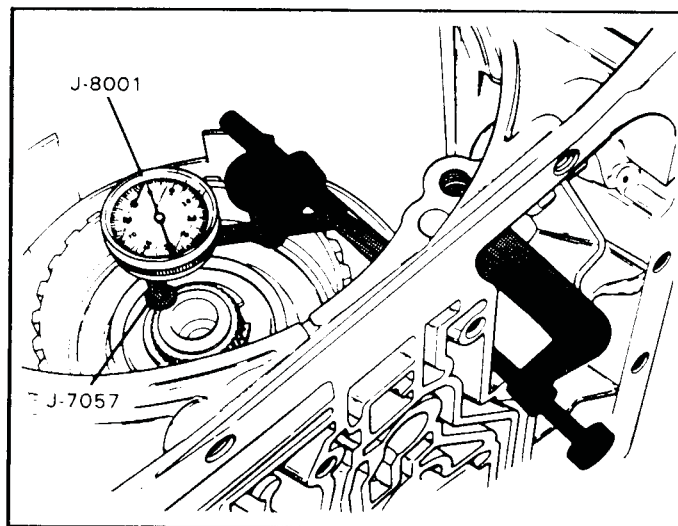

Figure 48
12. Install dial indicator with extension set on output shaft, as shown in Figure 48, and zero indicator.